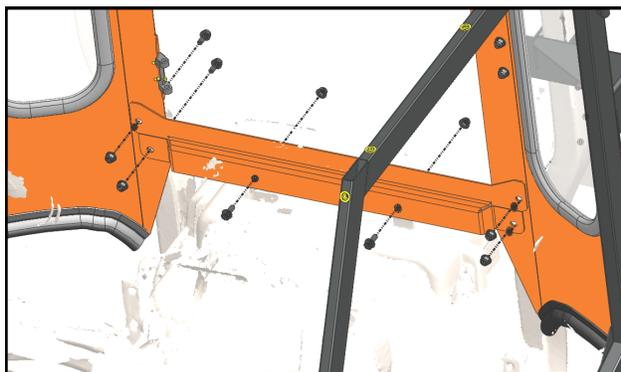

Fig. 4.5 (Lower Rear Bracket)
4.5 Per Figure 4.5, attach the lower rear bracket to the tabs at the top of the fuel tank at the rear of the tractor.